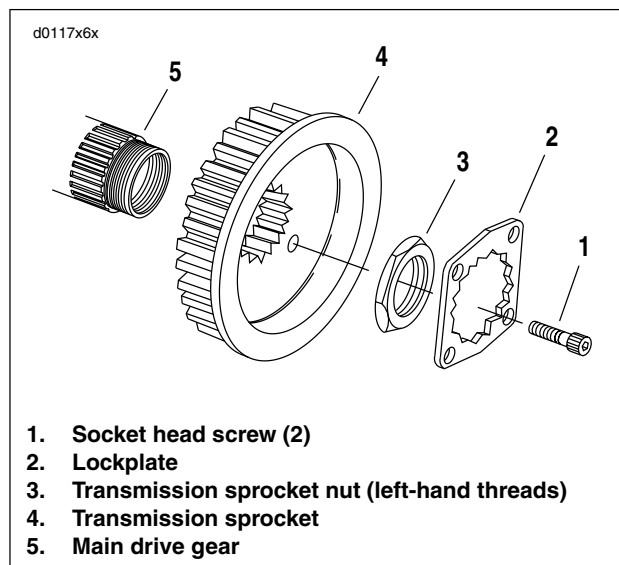

Figure 6-95. Transmission Sprocket
8. See Figure 6-95. Place transmission in first gear. Remove two socket head screws (1) and lockplate (2).
1. See Figure 6-95. Install transmission sprocket (4) with secondary drive belt onto main drive gear (5).
3. Apply a few drops of LOCTITE 262 (red) to the **left-hand threads** of transmission sprocket nut (3) and lightly coat the washer-faced side with clean H-D 20W50 engine oil. Wipe off any excess oil.
9. See Figure 6-95. Install lockplate over nut so that two of lockplate's four drilled holes (diagonally opposite) align with sprocket's two tapped holes.
10. See Figure 6-95. Install two socket head screws through aligned holes of lockplate and into tapped holes of sprocket. Tighten to 90-110 in-lbs (10.2-12.4 Nm).